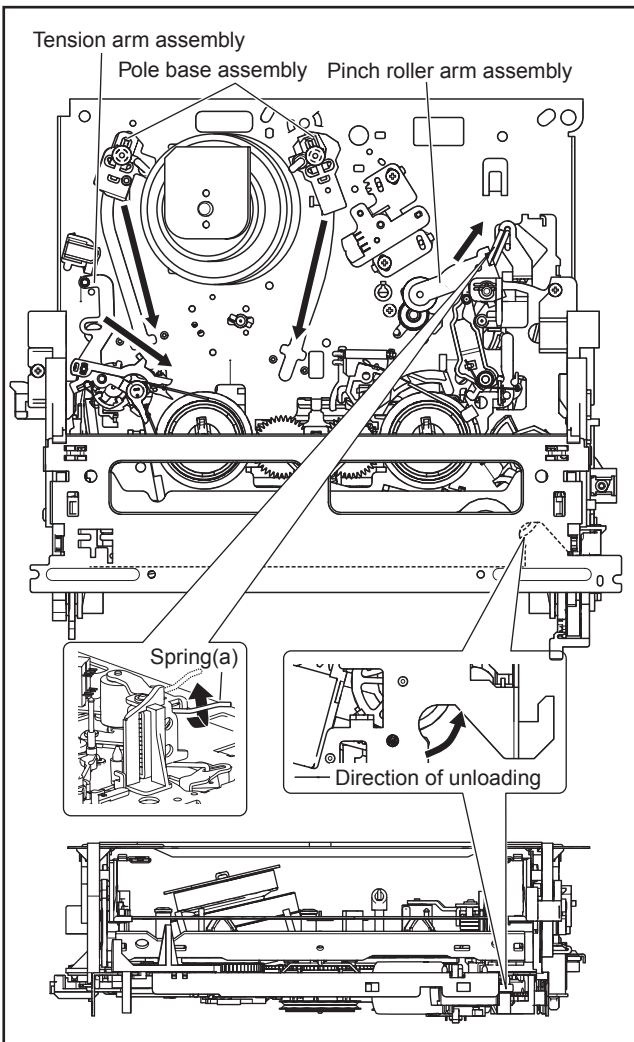

Fig.5-1b
- (3) Unload the pole base assembly by manually turning the gear of the loading motor until the pole base assembly is hidden behind the cassette lid. In doing so, hold the tape by the hand to keep the slack away from any grease. (See Fig.5-1b )
- (4) Remove the screw (a) of the side frame (L/R).
- (5) Hold the slack tape and cassette cover together, lift the cassette tape, top frame, cassette holder and side frames (L, R) together from the rear and remove them by disengaging the hooks (a) and (b).